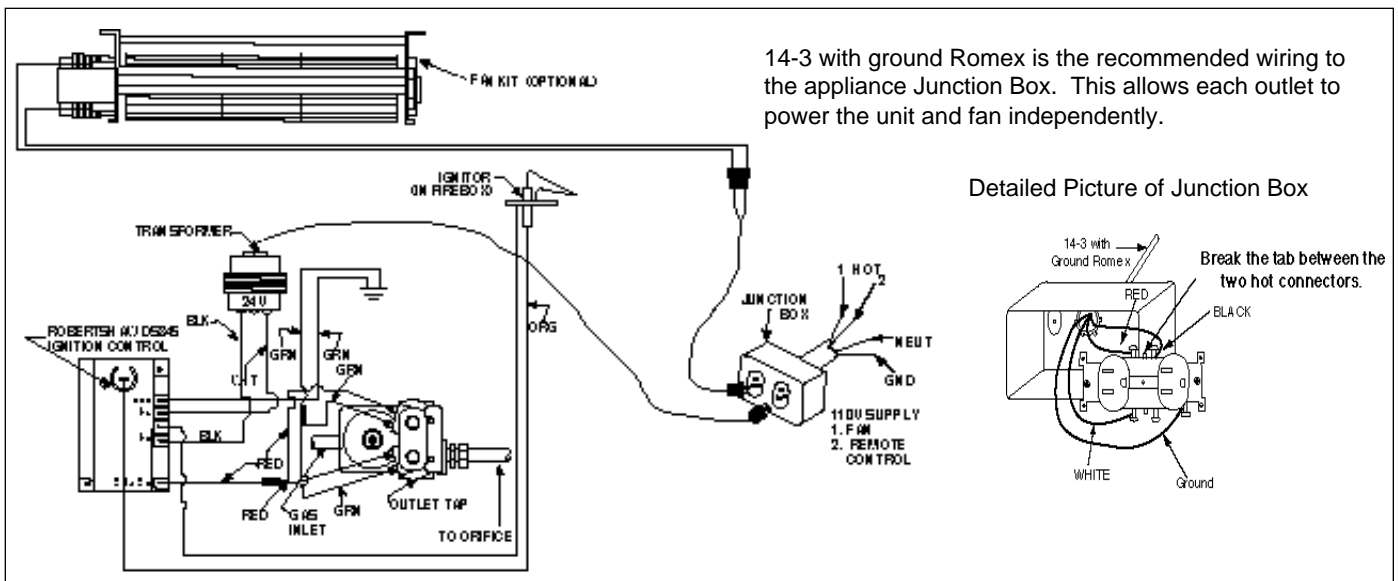

Figure 19
1. Appliance Requirements. This appliance requires a 110VAC supply from a wall switch to the appliance junction box for operation. A wiring diagram is shown in Figure 19.